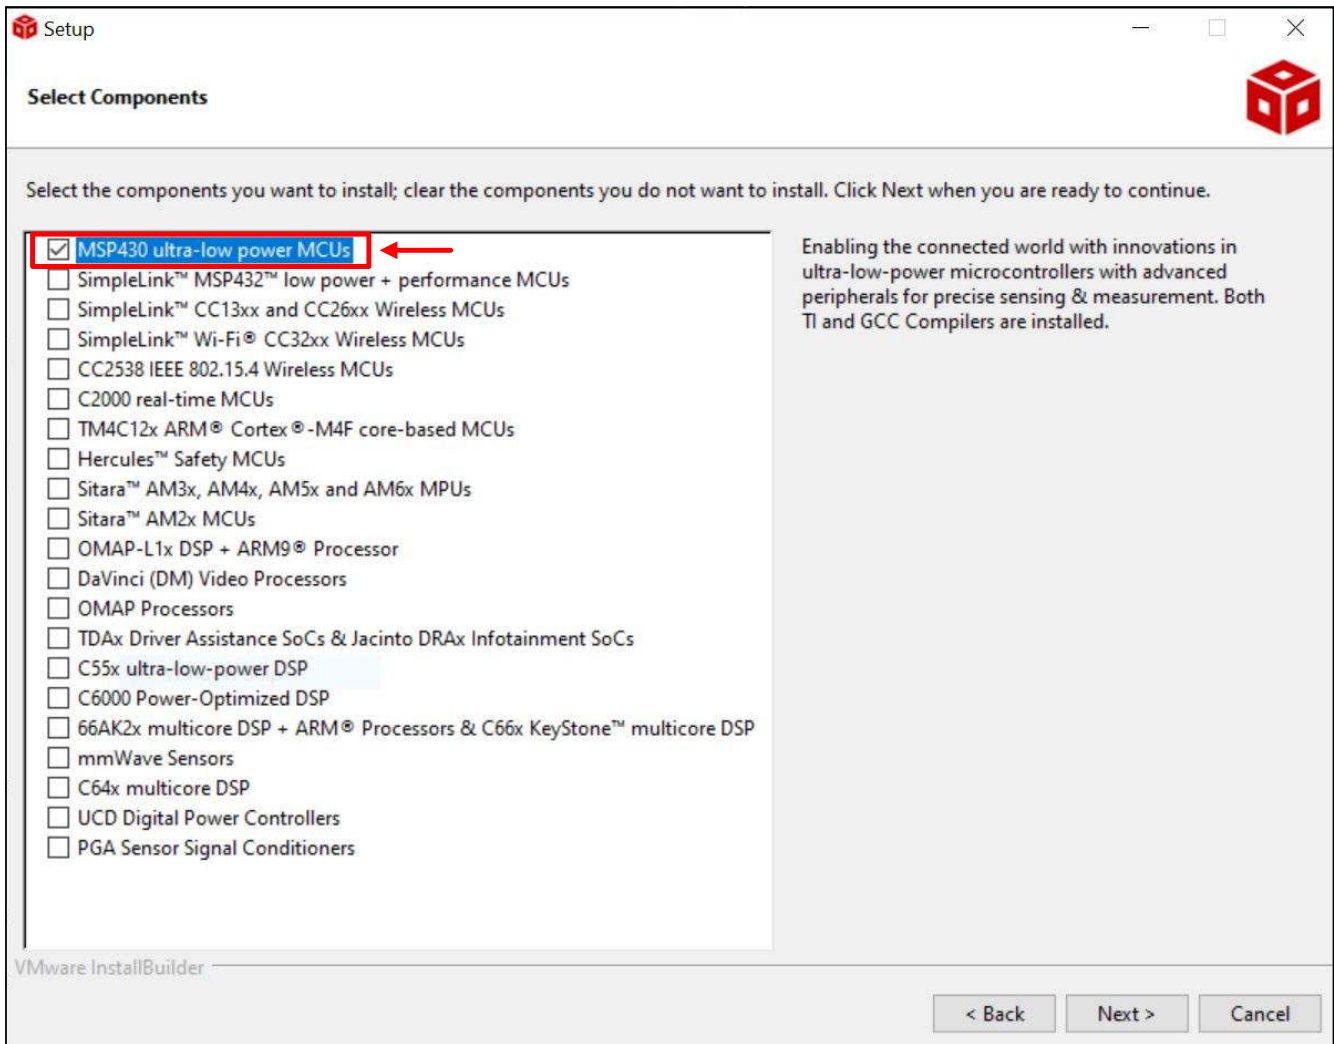

Figure 3-1. Installation Process of Code Composer Studio
- b. Follow the installation instructions to install Code Composer Studio. During the installation process, if you choose the "Setup type" to be "Custom Installation", make sure that you select "MSP430 ultra-low power MCUs" in "Select Components", as is marked with red box in Figure 3-1.